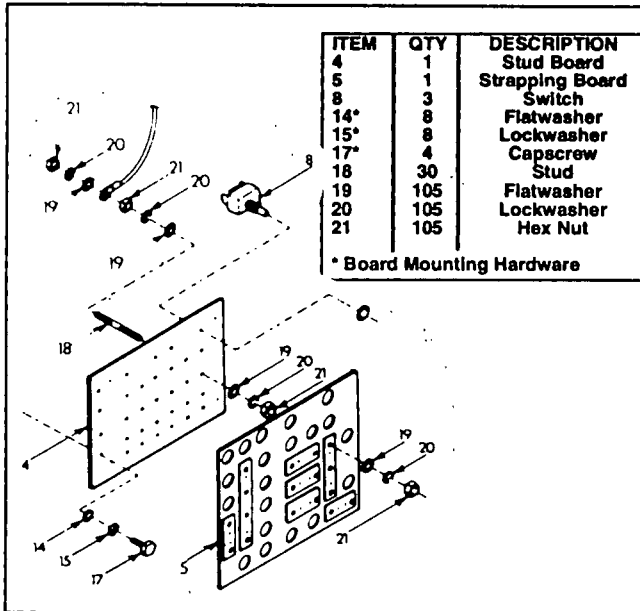

Figure 8. A Typical Voltage Changeover Board
A typical voltage changeover board consists of (a) a STUD BOARD, and (b) a STRAPPING BOARD as shown in Figure 8. The stator's twelve (12) AC output leads connect to studs on the stud board. By changing the position of the strapping board on the stud board, the connection system and the unit's rated voltage can be changed. Terminal studs are provided for the connection of customer load leads E1, E2, E3 and Neutral.